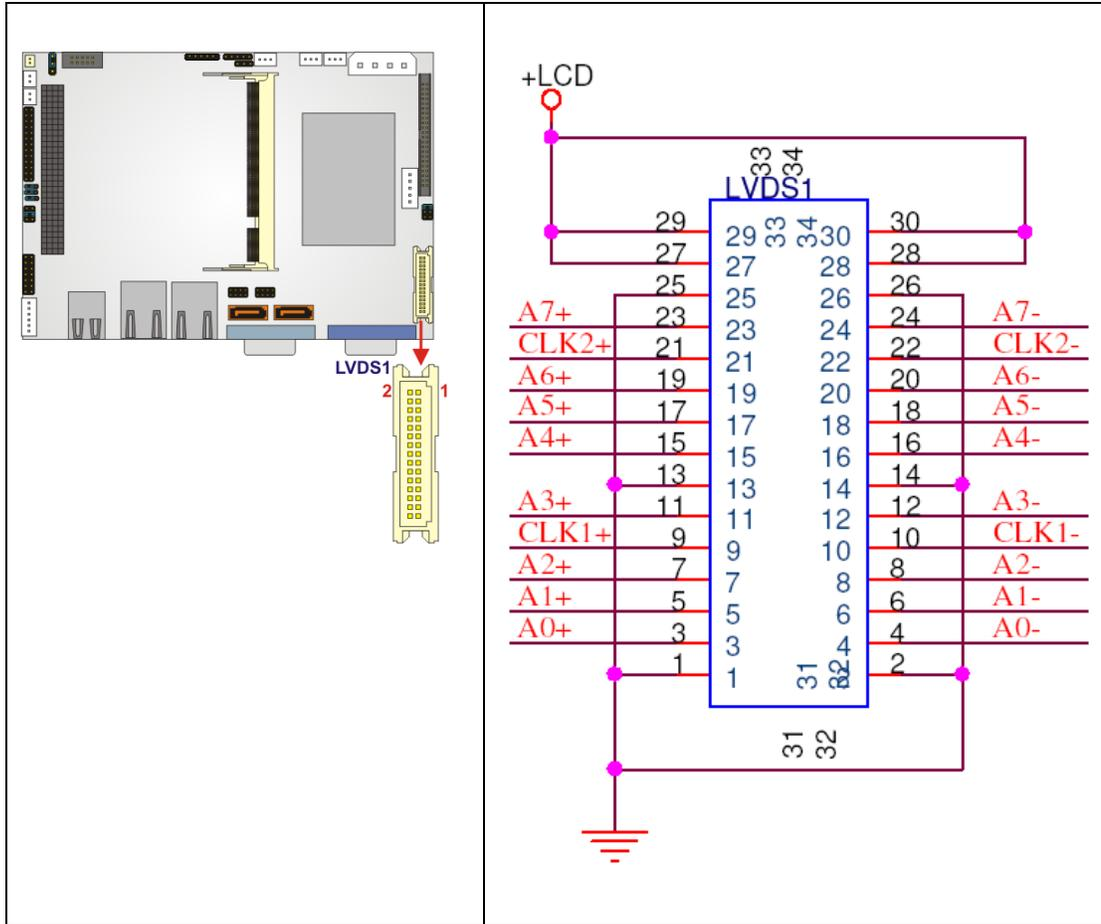

Figure 3-14: LVDS Connector Locations
- CN Location:** See **Figure 3-14**
- CN Pinouts:** See **Figure 3-14**